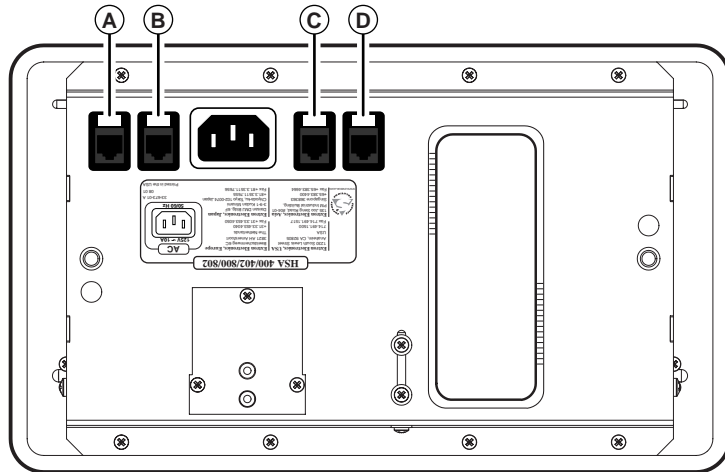
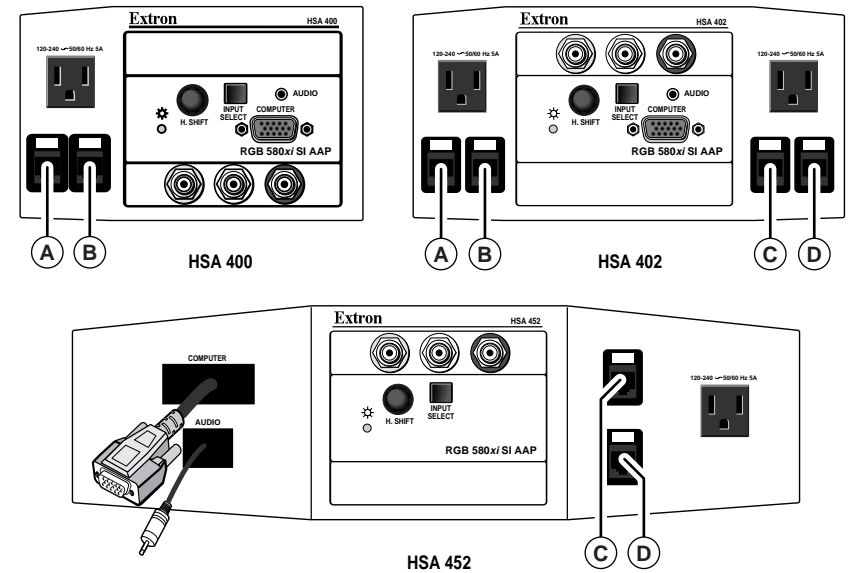

Figure 1-1 — Lower enclosure underside features
Figure 1-2 — Front panel RJ-45 connectors
Figure 1-1 shows the location of the bezel plug-ins on the underside of the lower enclosure for the HSA 402. Figure 1-2 shows the associated connectors on the front panels of the HSAs. When replacing the CAT 6 cable, match the front panel connection (A) with the underside connector (A), match (B) with (B), and so forth.